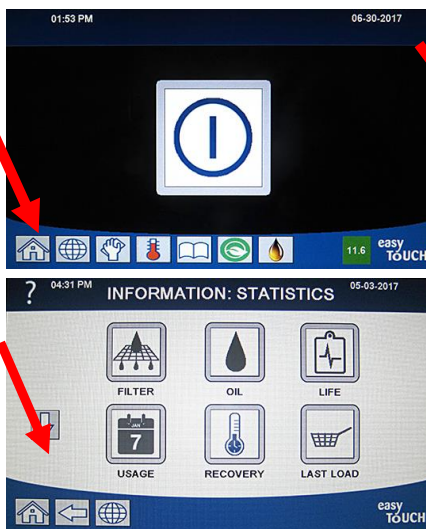

Figure 30
4. Press the down arrow button (see Figure 30).